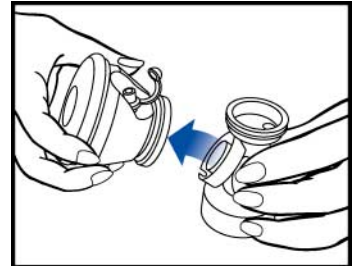

Figure 2
3. Remove Express Cup from Connector by pulling straight away (See **Figure 2**).
2. Remove Filter Cap by pulling straight up from Connector – leave Tubing connected to Filter Cap. See **Figure 2**.